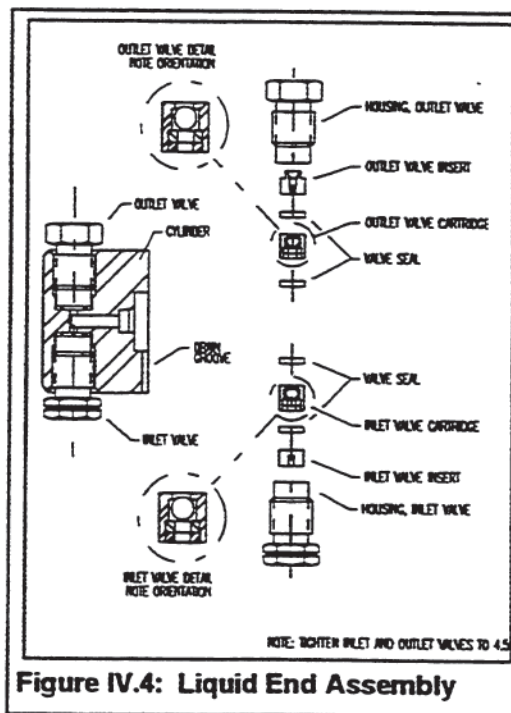

Figure IV.4: Liquid End Assembly
The valves are the two hexagon-shaped components on the liquid end assembly (see Figure IV.4 on page 23). Inlet valves can be distinguished from outlet valves by the groove on the hexagonal part of the valve. To prevent the internal components of the valve from falling out upon removal keep the pump in its normal position when removing the inlet valve and turn the pump upside down when removing the outlet valve. Remove the valves with a 1/2" wrench, turning in a counter-clockwise direction. After removal, be careful to keep the valve oriented so the translucent washers face upwards. If you wish to replace the cartridge in the valve, you may purchase replacement cartridges which include the cartridge and instructions.
- 3. Reassemble the valve by placing the valve insert in the valve housing using the larger (3/16") dowel pin provided. Make sure it is oriented correctly (see Figure IV.4). Press a new Kel-F® seal into place. Slide the valve cartridge into the valve housing making certain it is oriented correctly. Press another new Kel-F® seal into place. The Kel-F® seal will extend approximately 0.020 - 0.030" from the valve housing.**